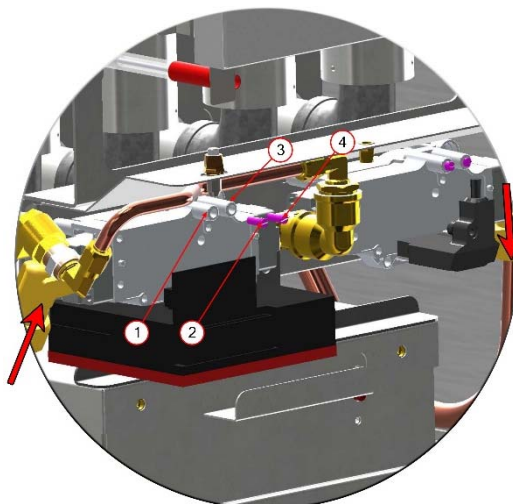

Fig. 10.
- Remove the screw (Fig. 10. – Mark 2), plug the pressure gauge on the pressure test point (Fig. 10 – Mark 1).
- Remove the screw (Fig. 10 – Mark 4), plug the pressure gauge on the pressure test point (Fig. 10 – Mark 3).